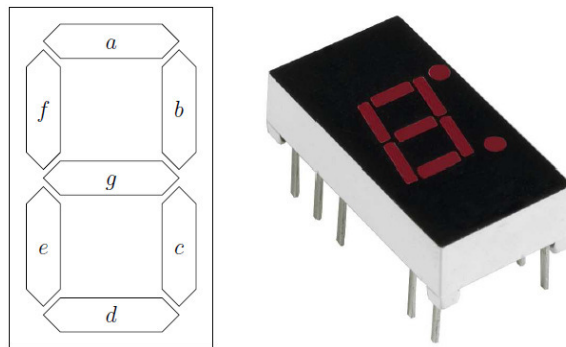

Figure 1: 7-Segment Display
Decoders and multiplexers are important combinational circuits in many logic designs. Decoders convert n inputs to a maximum of unique 2^n outputs. A special case is the BCD-to-seven-segment decoder, where a four-bit decimal digit (represented in BCD) is decoded into the corresponding seven-segment code used as an input to the seven-segment display (Figure 1).
- 1.2. Fill in the truth table for the BCD-to-7-segment decoder shown in Table 1, e.g., if the input is 0011, LEDs a, b, c, d, and g should be on while LEDs f and e will be off (see Figure 1 for reference). For inputs 0xA through 0xF, naturally they don't correspond to any number in the 0-9 range, therefore output the corresponding hex value instead, i.e., for 0xA the display should show the letter A.